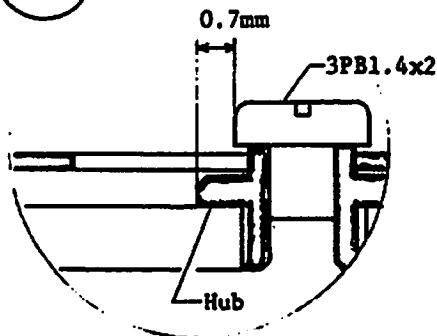

Fig. 138
- * Judge 0.6mm gaps with an eye-measurement referring to 0.7mm gaps between edge of Hub and head of Screw (3PB1.4x2) as shown in Fig. 138.
(2) Adjustment at the counter "1"